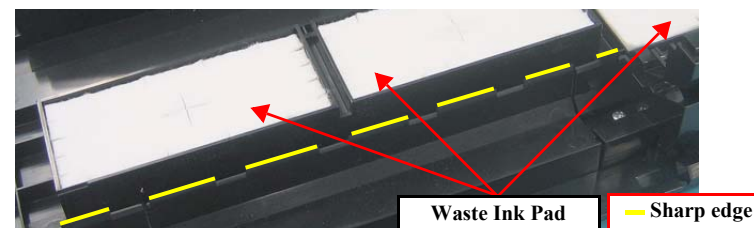

Figure 4-62. Removing the Waste Ink Pad
- Be careful of the seven sharp edges shown in Fig.4-62 when disassembling or reassembling.